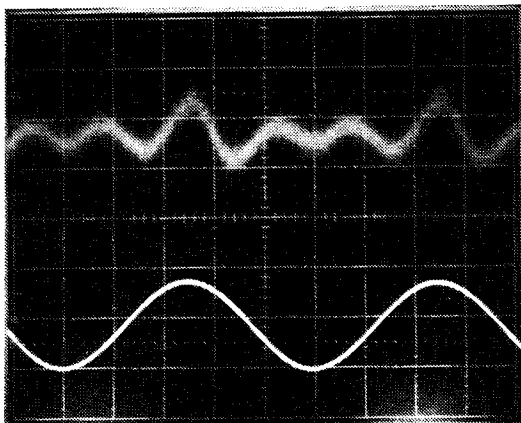

Fig. D-1: 100HZ DISTORTION RESIDUAL, LIN RELEASE
- b) Set the oscillator frequency to 100Hz, and advance the oscillator output level until the 424A G/R meter reads 20dB G/R. Measure the THD at the 424A output, and verify that it is less than 0.03%. Observe the distortion output from the THD analyzer on a scope, and verify that the distortion residual looks like Fig. D-1. Suppress the oscillator output, and verify that the time required for the G/R meter to move from 20dB to 10dB G/R is 2.0seconds, \pm 0.5seconds.